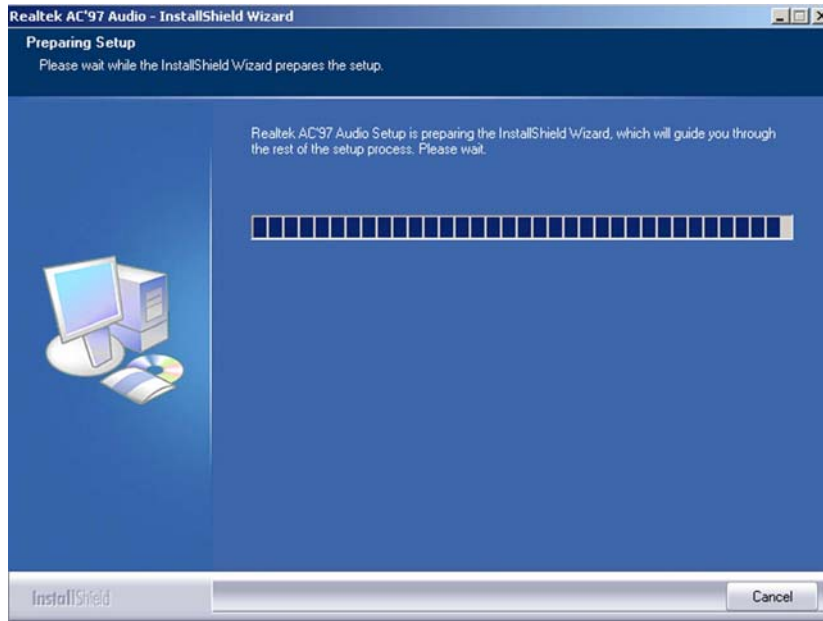

Figure 6-14: Audio Driver Setup Preparation
Step 5: The RealTek Audio Setup prepares the install shield to guide you through the rest of the setup process. See **Figure 6-14**.